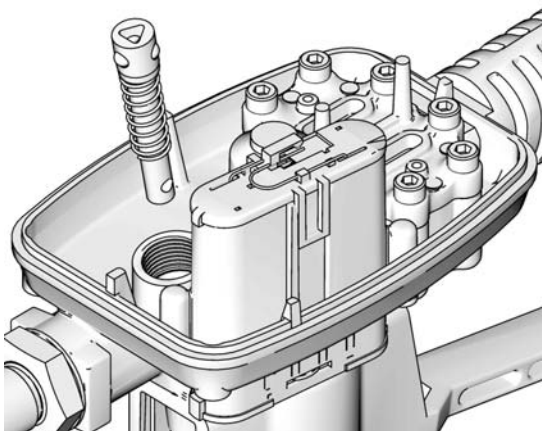

FIG. 43
3. Insert trip rod assembly in opening in meter housing (FIG. 43).